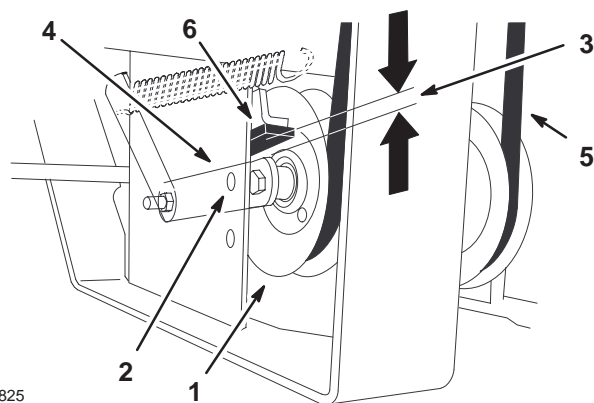

Figure 77
9. Check the distance from the rubber stop and the arm of the spring loaded idler pulley when the idler plate is tightened. It needs to be 0 to 1/4 inch (0 to 6 mm) from the rubber stop (Fig. 77).